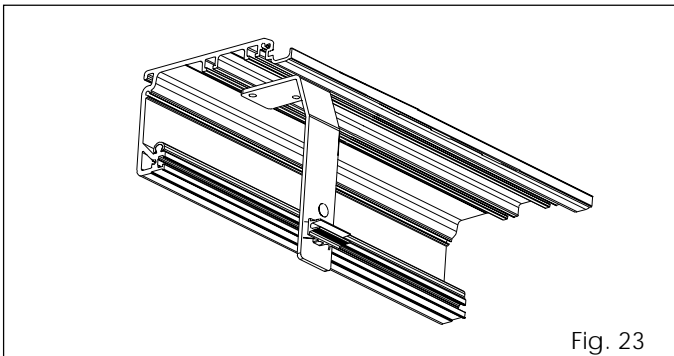

Fig. 23
- Fit a housing fixing bracket at the end of the head profile, opposite the motor unit, using the supplied screws and plates (fig.23).